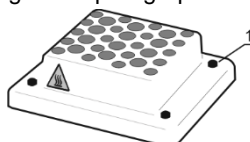

Figure 2. Thermoblock setup
- Align the thermoblock so that the warning label  is facing the front of the unit (fig. 2).
- Secure with the four knurled screws (fig. 2/1) or four hex screws.